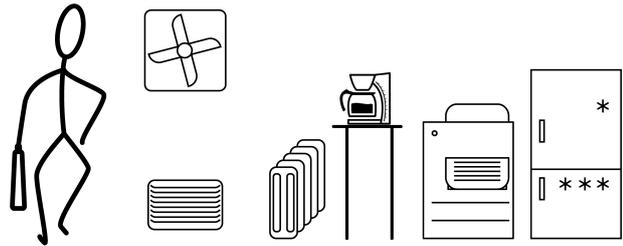

Figure 6: Heat sources in buildings
- Heat sources such as heating units, outlets from ventilation openings or air conditioners, copiers, printers, coffee machines, etc. (Figure 6)